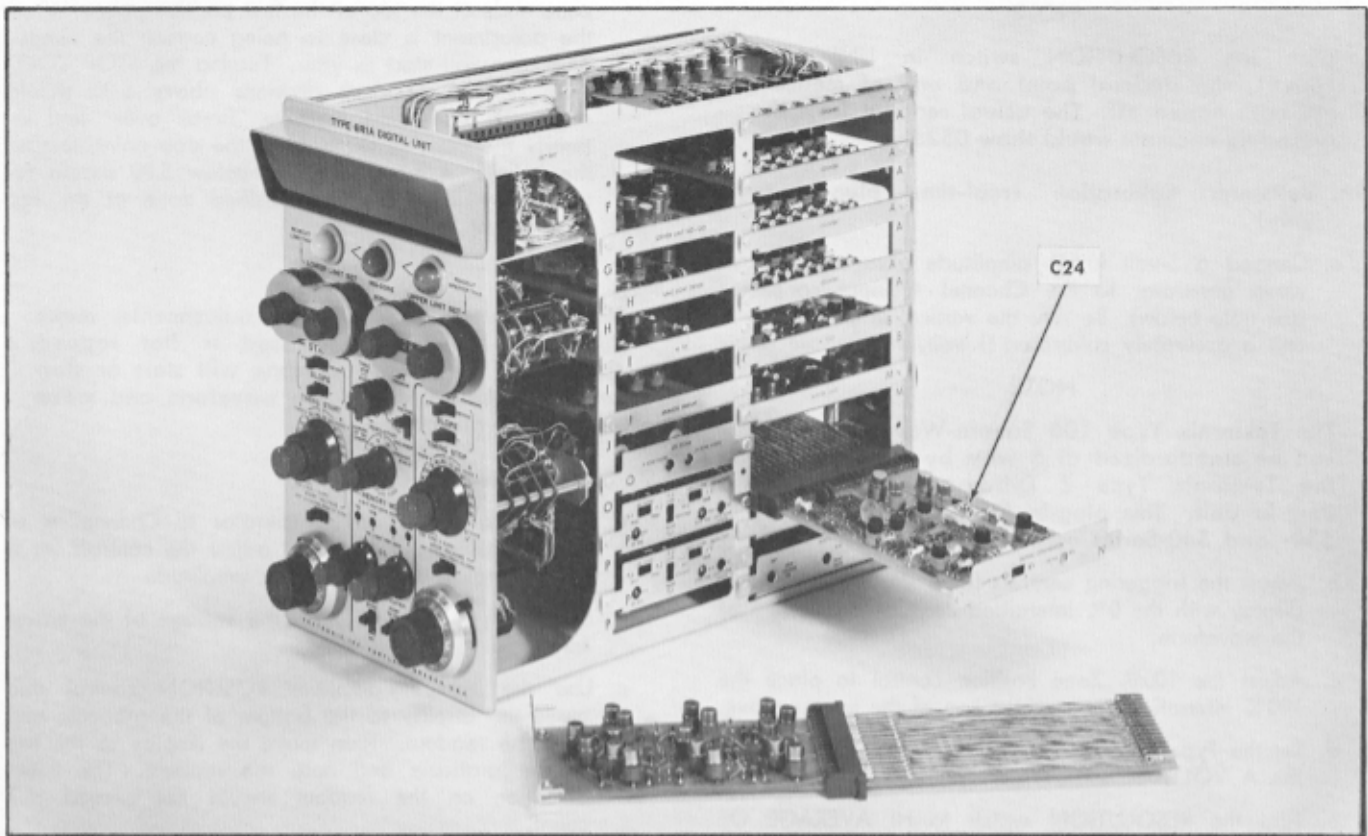

Fig. 6-2. Extender cards used for circuit calibration.
- d. Switch the 3-DOT DELAY switch on the Signal Comparator circuit card in and out. As the switch is moved to the IN position, three dots should disappear from the start of the string of dots representing the intensified zone. If the number of dots that disappear is more or less than 3, turn off the oscilloscope, remove the start Signal Comparator circuit card and place it in an extender (see Fig. 6-2). Plug the start Signal Comparator card and extender back into the Type 6R1A. Turn on the oscilloscope. Adjust